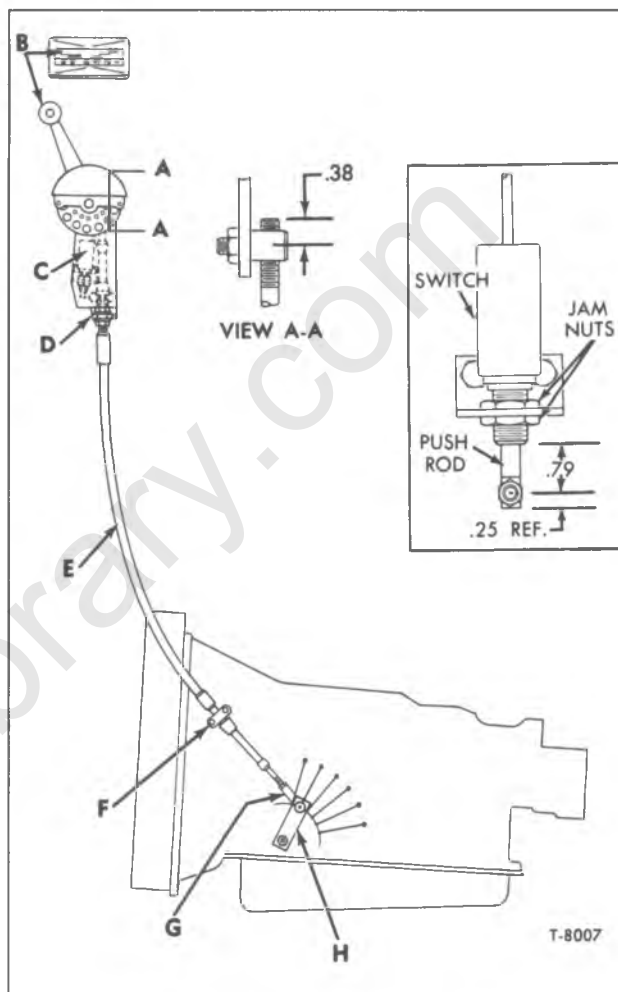

Figure 18—Manual Shift Linkage (AT540)
ADJUSTMENT (Refer to Fig. 18)
SWITCH ADJUSTMENT (Refer to Inset, Fig. 18)
2. Move lever (B) to "N" (Neutral) position, then referring to Inset, figure 18, loosen jam nuts and adjust length of push rod to dimension shown.